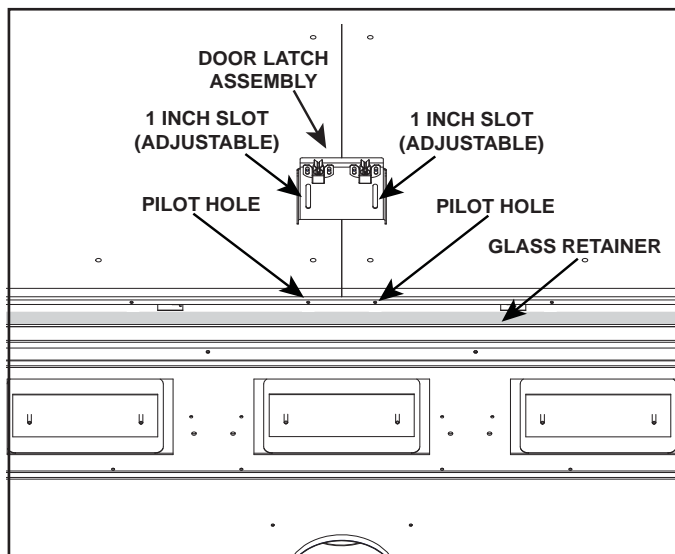

Figure 4. Installing Top Door Latch Assembly
4. Locate the two pilot holes in the top front surround. Install the top door latch assembly with two 1/2 inch screws included in the door instruction bag assembly. See Figure 4.
**NOTE:** The top door latch assembly is adjustable so that it can overlap finish material up to 1 inch thick that has been installed on top of the 1/2 inch factory-installed non-combustible material. See Figure 4.